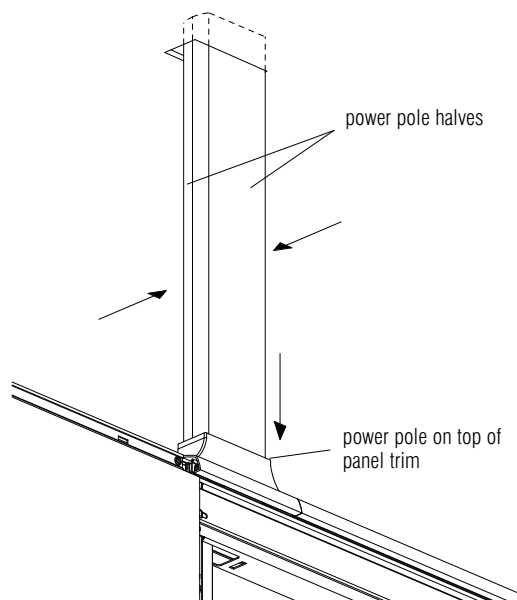

Figure 55
1. Position the two halves of the power pole in the cutout in the ceiling tile, around the infeed and any data cabling, and snap the cover closed. Lower the power pole so it sits in the top of the panel trim. **Figure 55.**